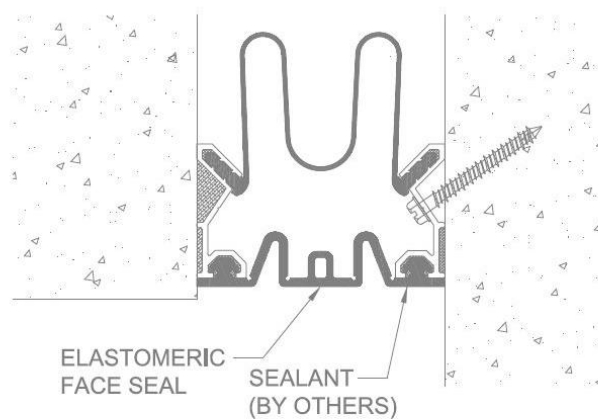

FIGURE 5
5. Repeat these instructions when installing the face seal. Make sure the bulbs are seated all the way into the channel. Do not stretch the seal lengthwise during installation. **See Figure 5.**